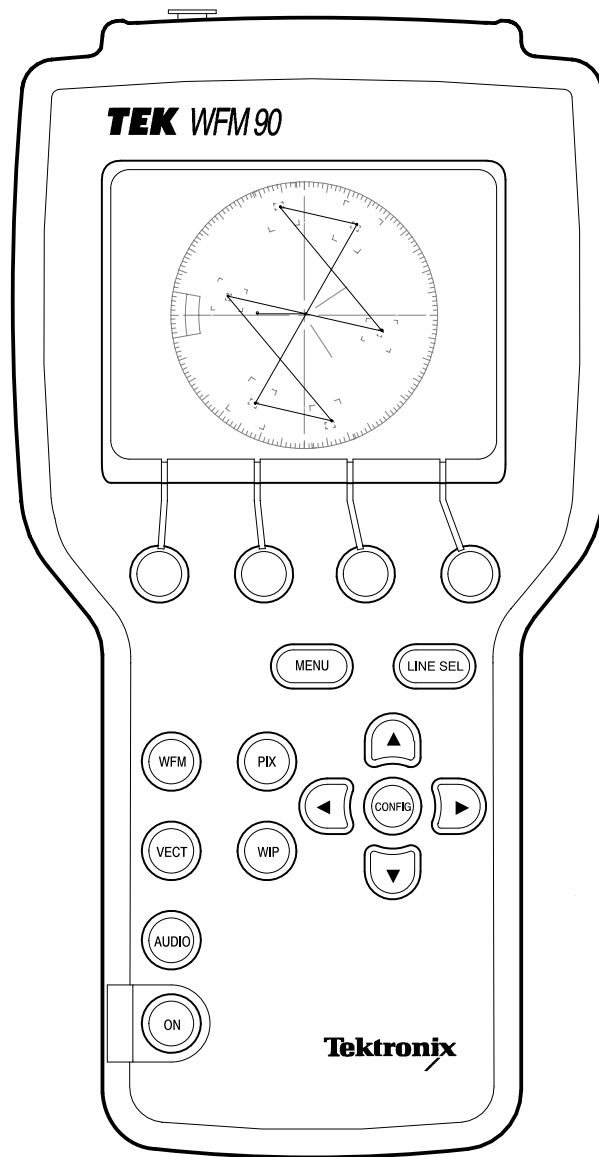

Figure 2–3: Instrument front panel
**Viewing Hood.** The optional viewing hood allows you to readily view the instrument display in well-lighted situations. The hood is attached to the instrument by first applying the supplied Velcro strips to the sides of the instrument, and then pressing the flaps of the viewing hood onto the strips as shown in Figure 2–1.
**Front Panel Controls** The instrument front panel is illustrated in Figure 2–3.
The instrument side panels are illustrated in Figure 2–4.